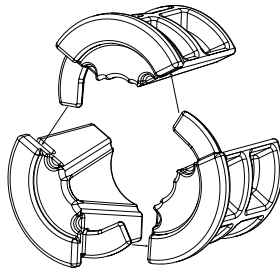

Fig. 15-1
- ✦ **Step 15-2:** Fit 3 conduit caps together as shown in Fig. 15-1. (The conduit caps may be held together with a small rubber band.)